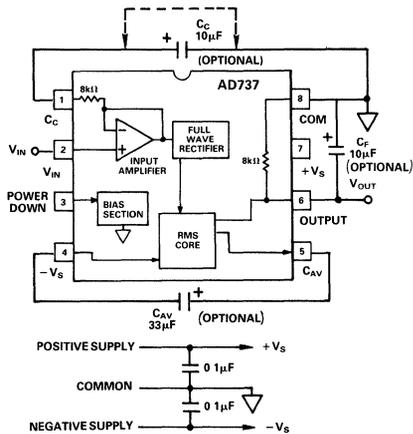

Figure 1. AD737 True rms Circuit
- ¹Accuracy is specified with the AD737 connected as shown in Figure 1.